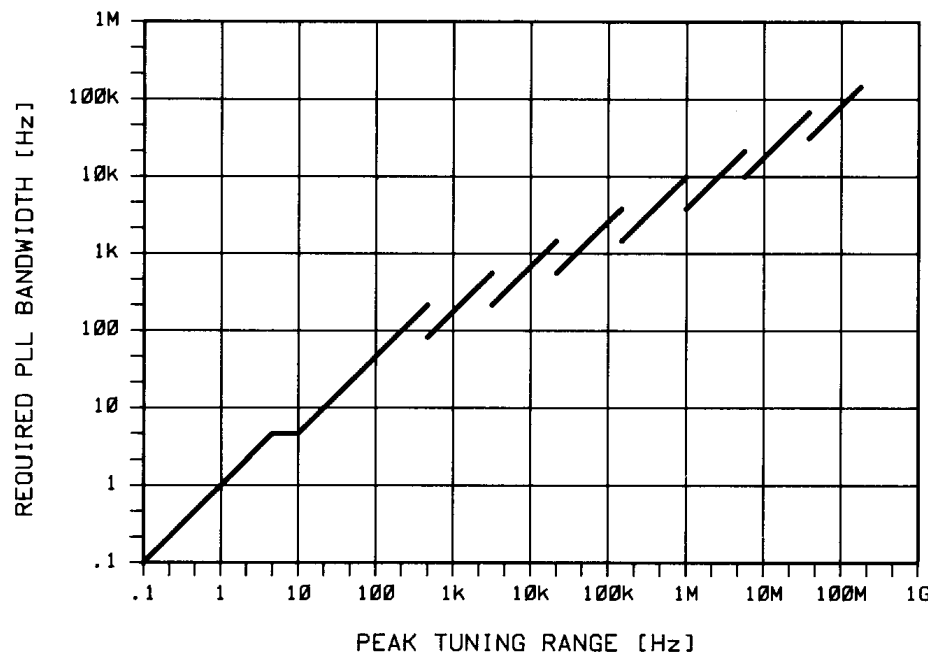

Figure 6-8 Peak Tuning Range (PTR) Required by Injection Locking.
NOTE: The PTR for the measurement is set by the tuning characteristics of the VCO source you are using. Figure 6-8 shows that increasing the PLL bandwidth can require a substantially larger increase in the PTR. For information on the limitations of increasing the PTR, refer to Changing the PTR in this section.
- 3 Locate the required PLL bandwidth in Figure 6-8 to determine the PTR required for the measurement. (For details on increasing the PTR, refer to Changing the PTR in this section.)